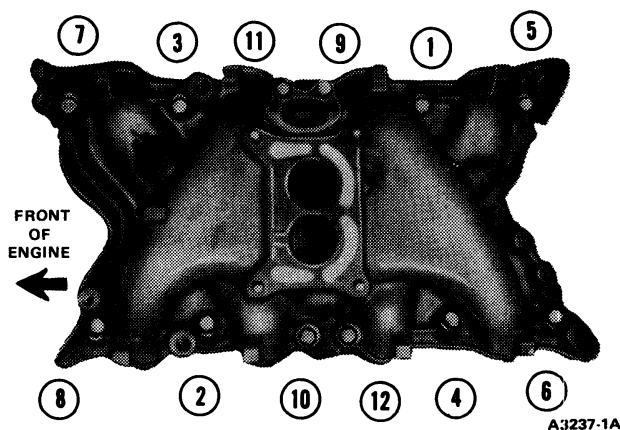

FIG. 18 Intake Manifold Torque Sequence
5. Be sure the holes in the manifold gaskets and manifold are in alignment. Install the intake manifold attaching bolts. Tighten the intake manifold bolts in three steps following specifications listed at the end of this part and in order shown in Fig. 18.